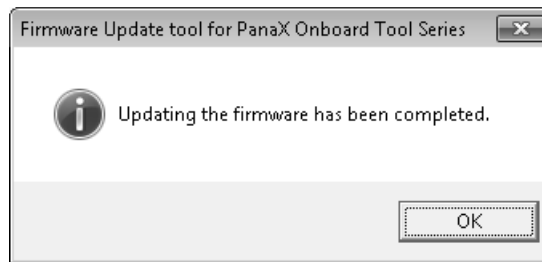

Figure 2.4.6 Completing Firmware Update
5. When the dialog shown in Figure 2.4.6 appears, the update has been completed. When the dialog shown in Figure 2.4.6 doesn't appear after 2 minutes or more, the firmware update has been failed.